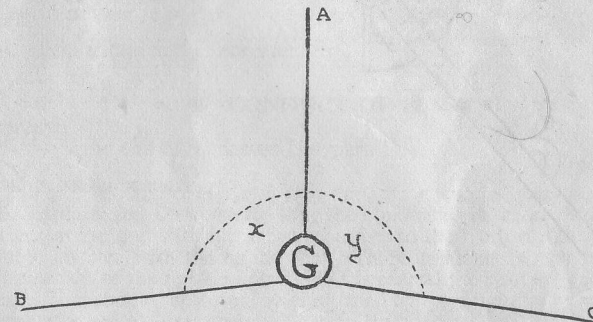

FIG 3
9. Move the squad to the site selected for the pivot gun and erect the director over the spot. (G in Fig 3).